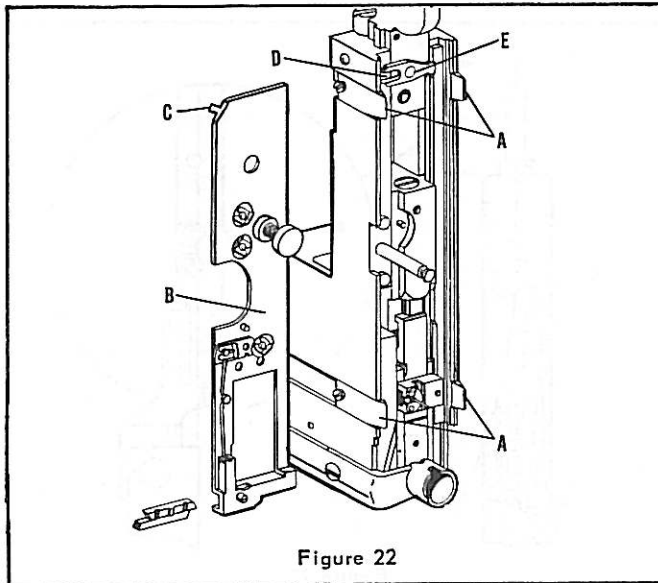

Figure 22
(See Steps 1 Through 8, Section K)**NOTE: (Figure 22)**
7. Loosen the four face plate retaining clips (Index A, Figure 22).
8. Lift the face plate (Index B, Figure 22).